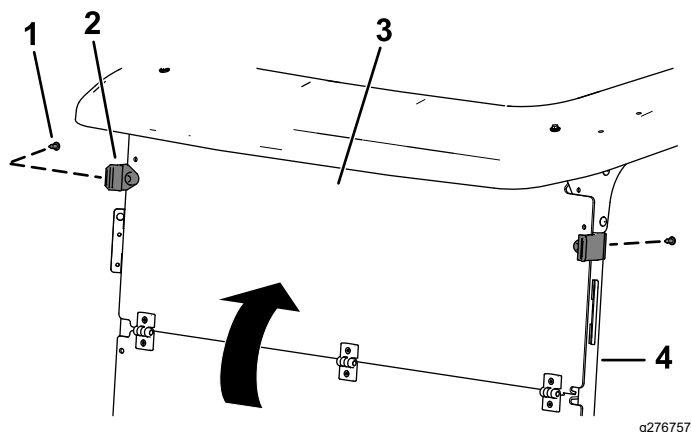

Figure 7
2. Unfold the windshield and secure the upper portion of the windshield to the canopy support tubes using the 2 rubber clamps and 2 short plastic rivets in the lower holes (Figure 7).